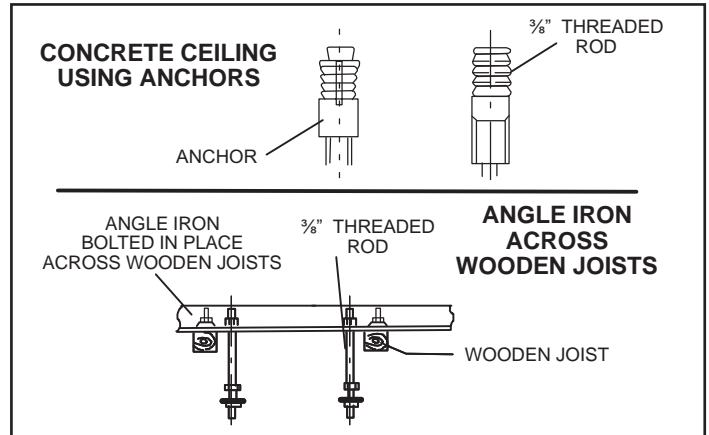

Figure 1. Suspending Methods
1. Make sure that the structural ceiling is able to support the weight of the mode selection box(es). It may be necessary to add extra support. If the structural ceiling is constructed of concrete, install anchors to accept four 3/8 inch threaded rods to suspend the mode selection box. If the structural ceiling includes wooden joists, use angle iron or a Unistrut channel fixed securely in place to accept the 3/8 inch threaded rods. See figure 1.